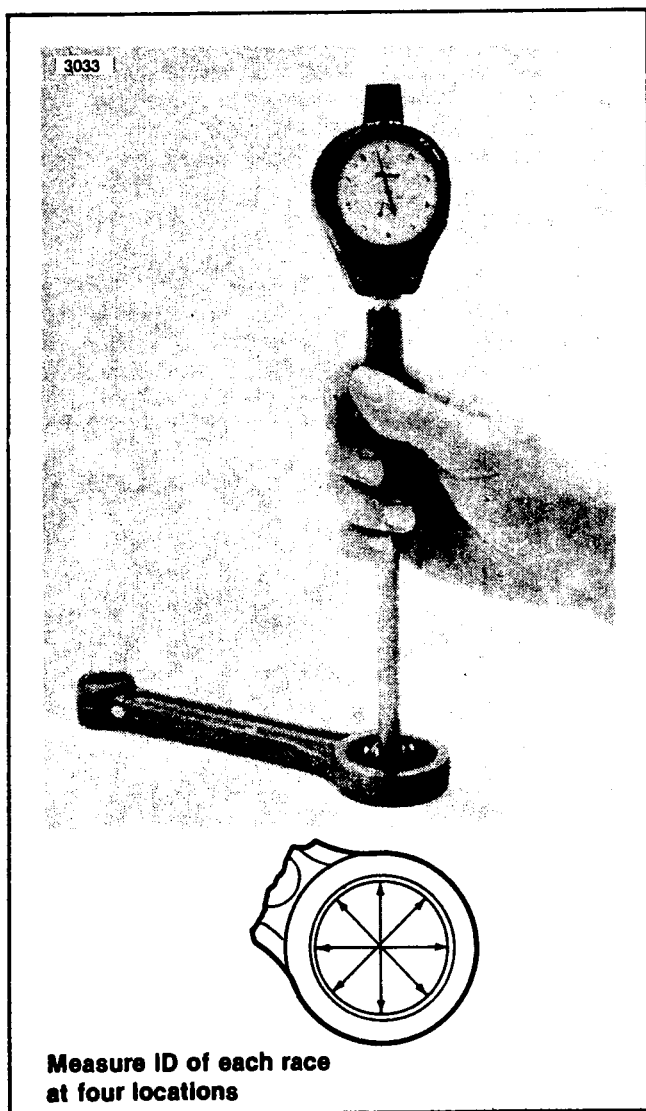

Figure 3. Measuring Connecting Rod Race Inside Diameters
8. See Figure 3. Measure inside diameter (ID) of lapped connecting rod races with a dial bore gauge that has 0.0001 in. graduations. Measure the ID at four places as shown. Record the four measurements. If any race ID exceeds Service Wear Limit of 1.6270 in., replace races or connecting rod set. If race ID measurements are less than 1.6270 in., continue procedure as follows: